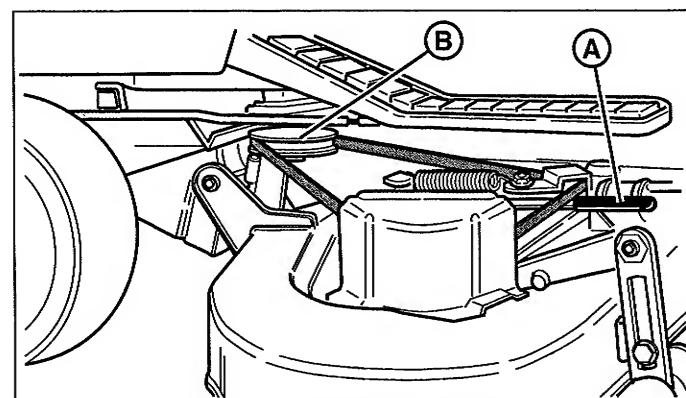

Figure 10. Removing & Installing Belt
5. Remove belt from PTO pulley (B, Figure 10).